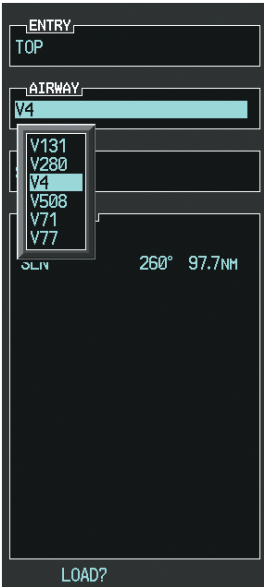

Figure 5-106 List of Available Airways for TOP
- f) Press the **LD AIRWY** Softkey to display the list of available airways for TOP as seen in Figure 5-106.
- g) Turn either **FMS** Knob to highlight V4 in the list as seen in Figure 5-106.